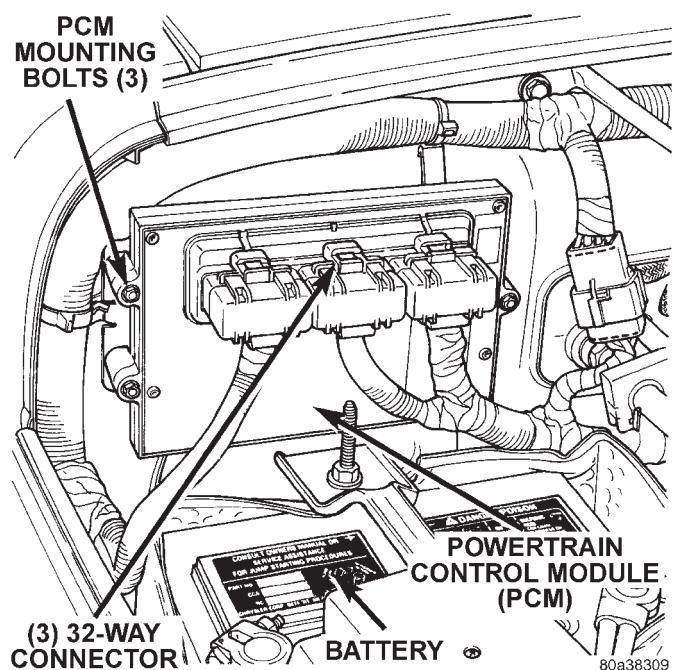
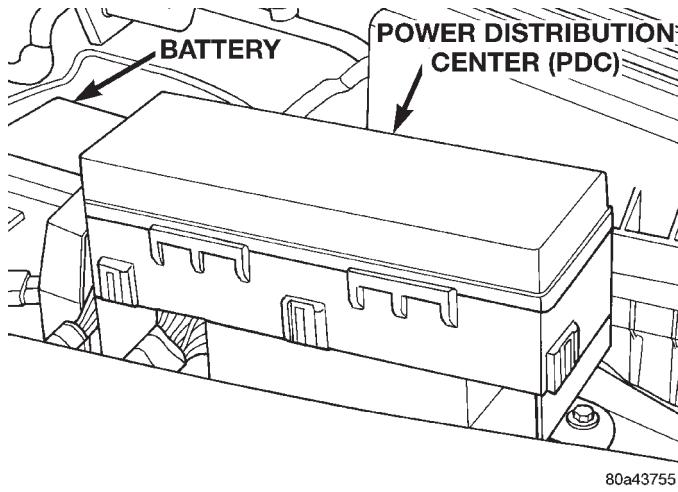

Fig. 15 Powertrain Control Module (PCM)
Fig. 16 Power Distribution Center (PDC)
- (1) Verify that the three 32-way electrical connectors are fully inserted into connector of Powertrain Control Module (PCM) (Fig. 15).
- (2) Inspect battery cable connections. Be sure that they are clean and tight.
- (3) Inspect fuel pump relay and ASD relay connections. Inspect starter motor relay connections. Inspect relays for signs of physical damage and corrosion. The relays are located in Power Distribution Center (PDC) (Fig. 16). Refer to label on PDC cover for relay location.